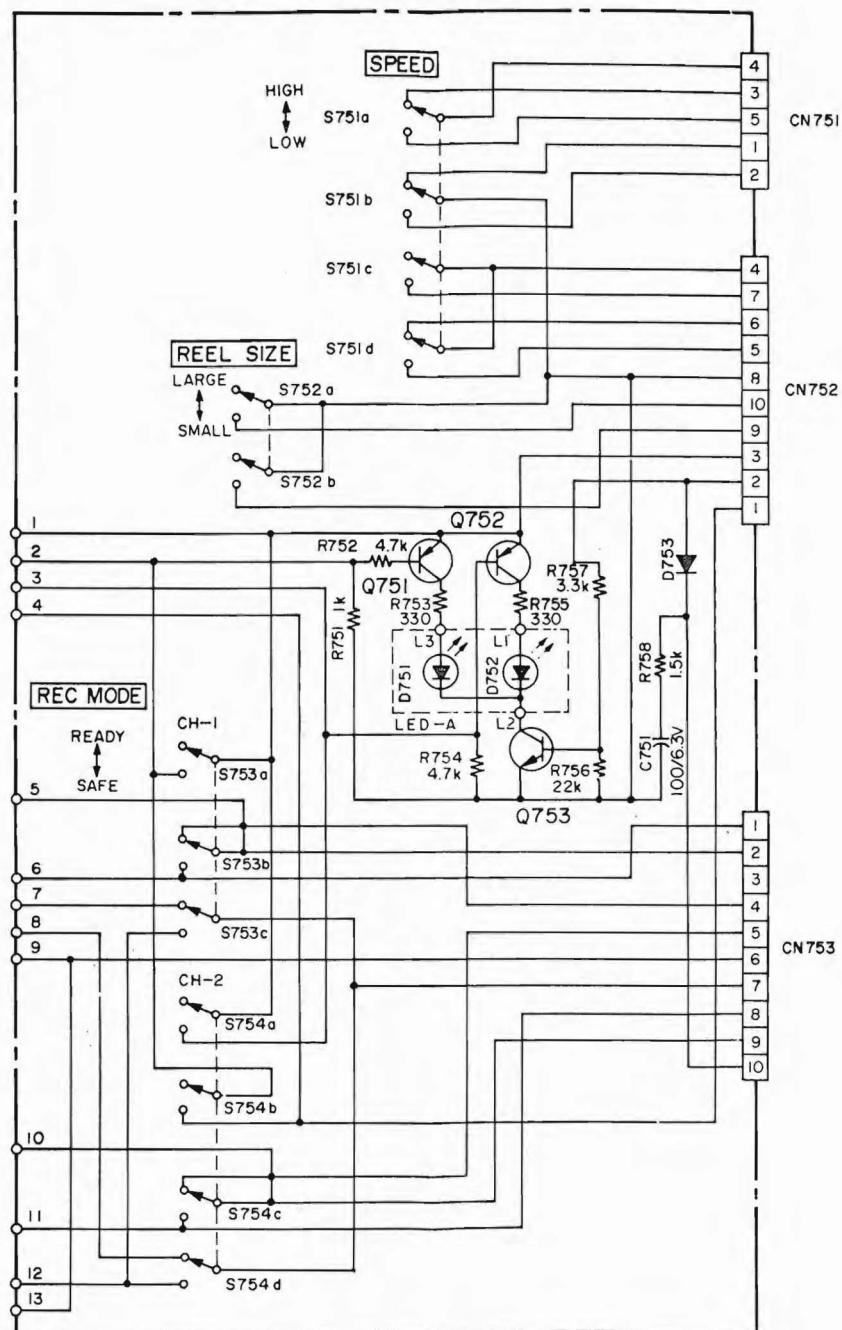

Figure 4-4. Switchboard A Schematic
- RECORD mode switches for channel 1 (S753) and channel 2 (S754) are both in the SAFE position (see Figure 4-4 for switchboard A schematic).
Refer to switchboard A schematic, Figure 4-4. When the REEL hub size selector switch (S752) is set to the SMALL position, the following events occur:
4-27. Switchboard A. Refer to schematic, Figure 4-4. Switchboard A PWA carries the following switch functions: